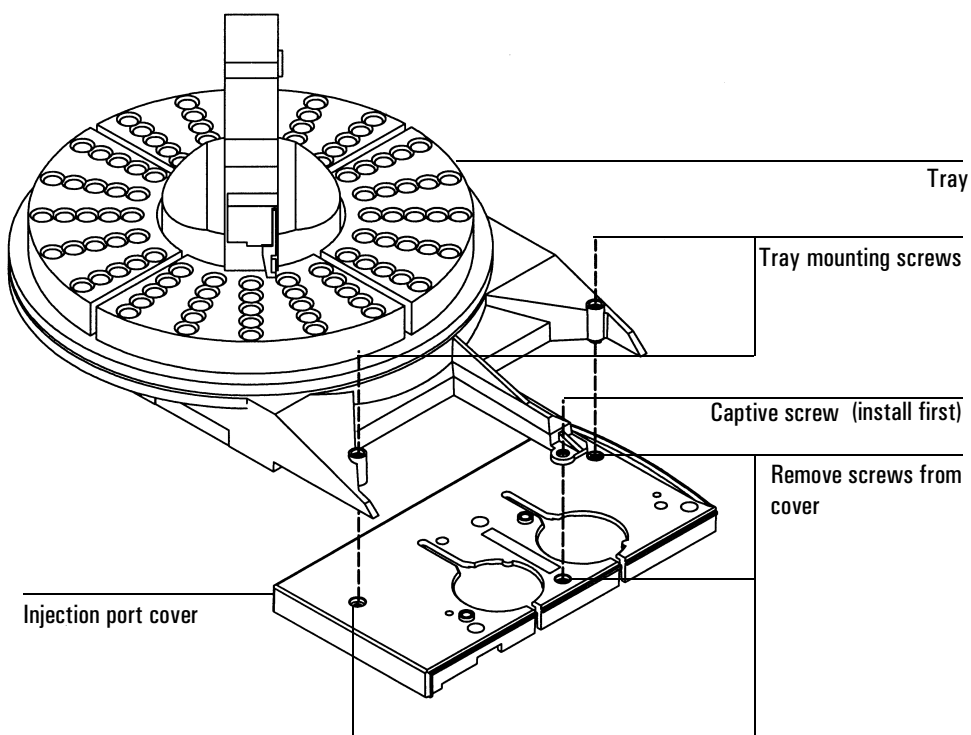

Figure 3 Installing the tray
2. Remove the three injection port cover Torx screws shown in Figure 3 and remove the old tray.